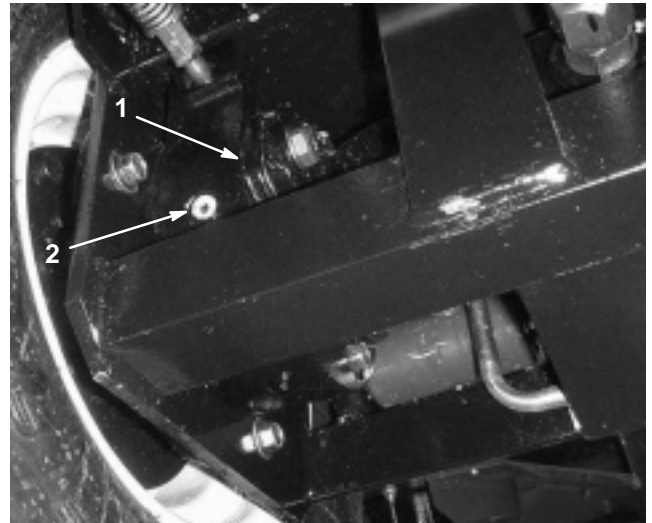

Figure 7
2. Remove the plug on the planetary (Fig. 6) and check check plug on the back side of the brake (Fig. 7). Oil should be at the bottom of the check plug hole on the back side of the brake.